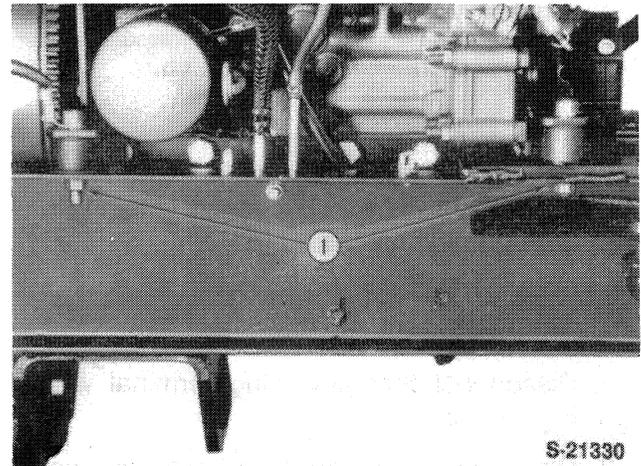

FIGURE 1-19
25. Remove the four engine base mounting nuts, 1, Figure 1-19.